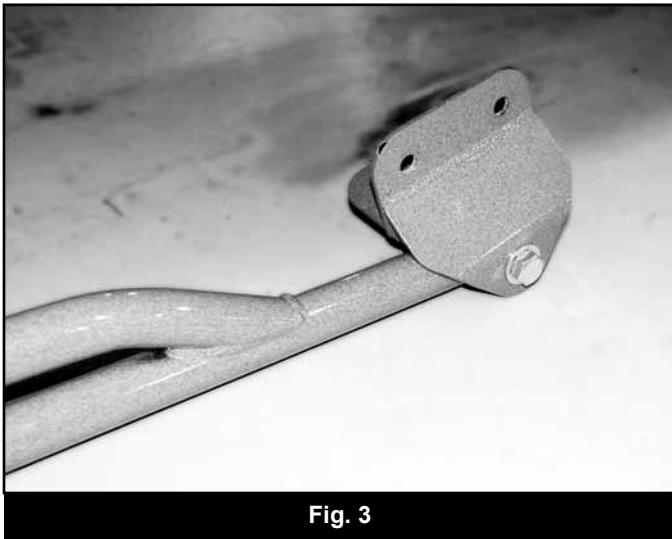
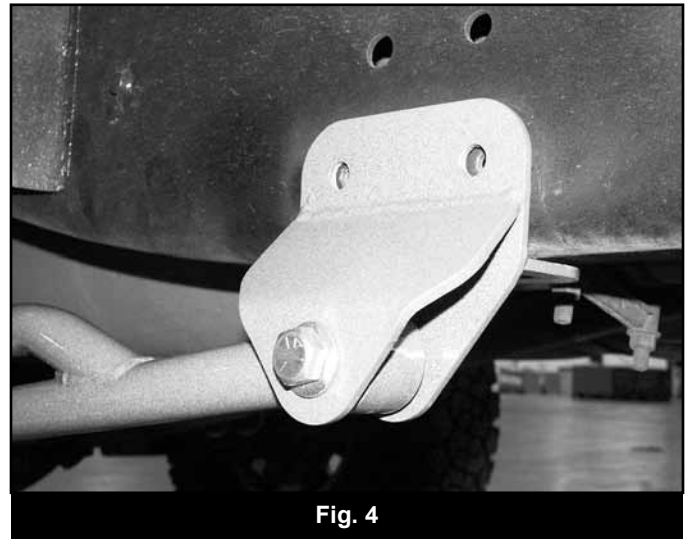

Fig. 3
Fig. 4
7. Loosely attach the provided frame bracket (01803) with a 9/16" x 3" bolt, nut and 9/16" SAE washer to the opposite end of the traction bar so that the "L" in the bracket mounts to the frame (Fig 3). Hold the bracket flush against the frame and using the three holes in the bracket as a template, mark the locations to be drilled on the frame (Fig 4). Lower the bracket/traction bar from the frame.
11. Verify proper installation by checking for consistent rivet nut deformation to see the threads are square and centered to the rivet nut. **Figure 3.**